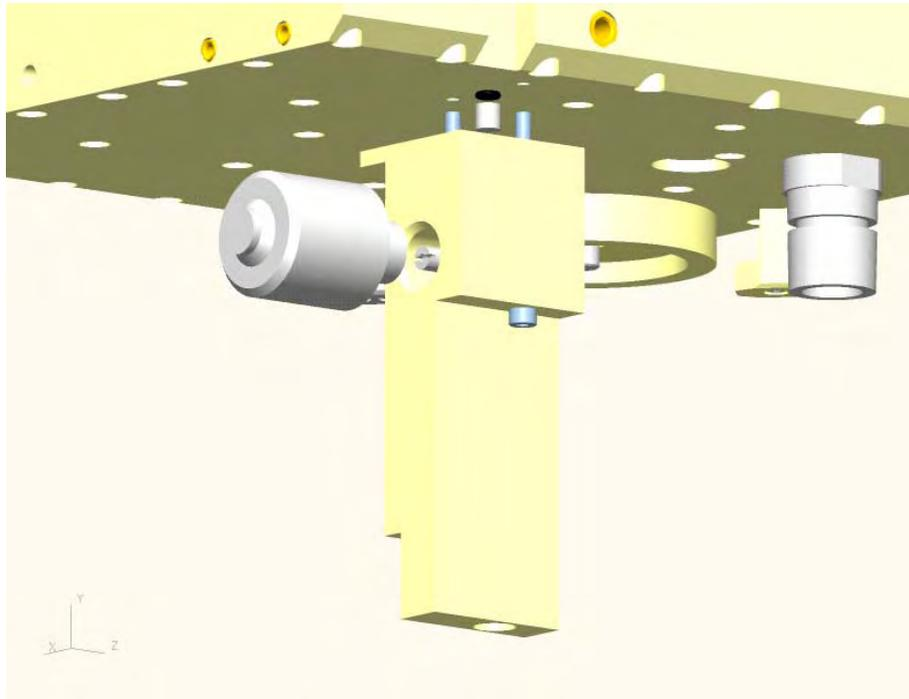

Figure 4-23
The oxygen monitoring system (Figure 4-23) provides the operator with a real-time indication of the oxygen percentage being delivered to the patient. The system incorporates an oxygen sensor (OS), which uses galvanic fuel cell technology, to develop an output voltage which is proportional to the partial pressure of oxygen within the sampled gas. The sample flow is developed by a restrictor/orifice (R1) whose inlet source is the reservoir. The small gas sample (0.4 l/min nominal) travels down through the oxygen sensor block and is directed through a jet onto the heart of the oxygen sensor. The sample gas is then exhausted to atmosphere. The oxygen sensor interfaces with circuitry on the Sensor board. The microprocessor uses this information to display the measured oxygen % on the monitoring screen and to evaluate whether alarms thresholds have been violated. A preset alarm is activated when the monitored oxygen % falls outside of the allowed range. The manufacturer recommends replacement of the oxygen sensor after every 12 months of operation, or as required. Failure to do so may result in an inaccurate monitored oxygen %. The oxygen sensor may be fully calibrated using the automated function available on the User calibration screen. Additionally, a single point calibration can be performed whenever the 100% O2 function is selected and allowed to finish the five-minute time interval.